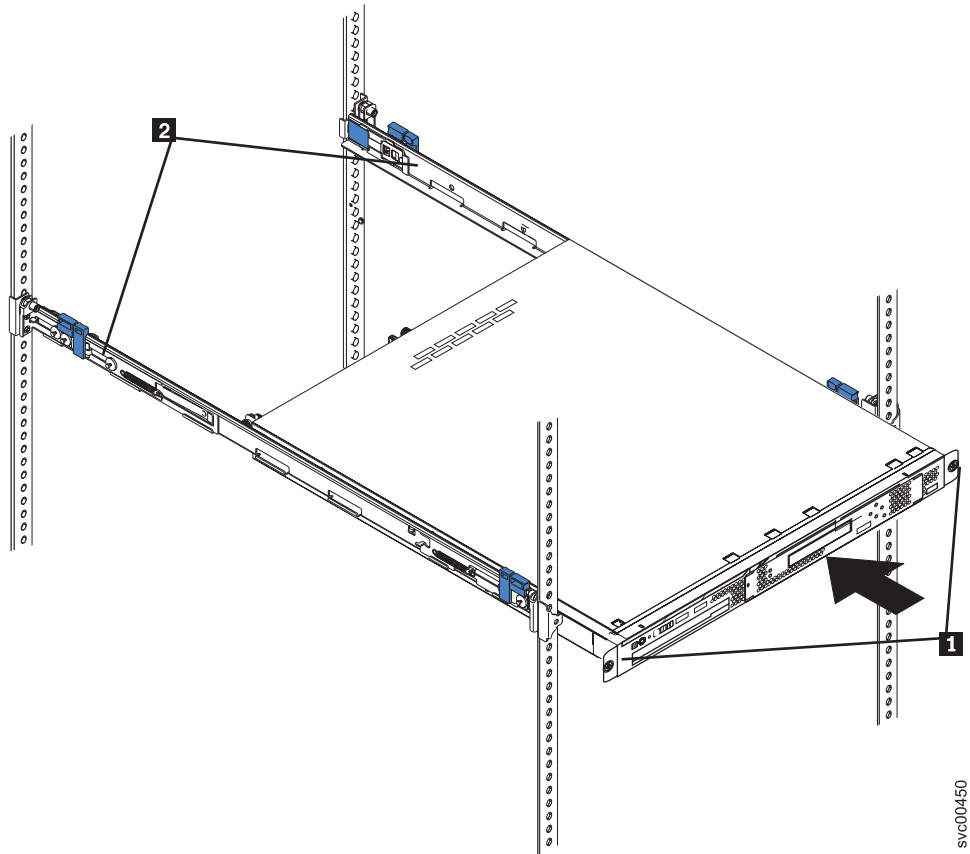

Figure 38. The captive thumbscrews that secure the node and the shipping brackets
3. Loosen the captive thumbscrews (**1** in Figure 38 on page 54) that secure the node to the front mounting flanges.